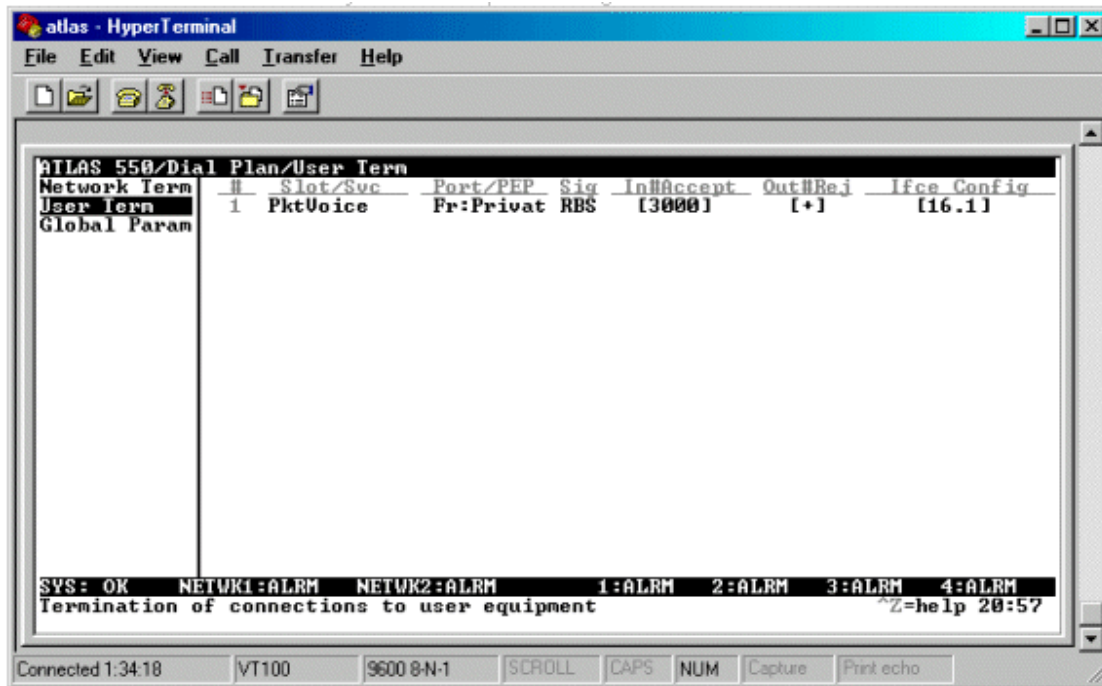

Figure 14
10. Press >esc&lt: until you are back to the screen shown in **Figure 14**.